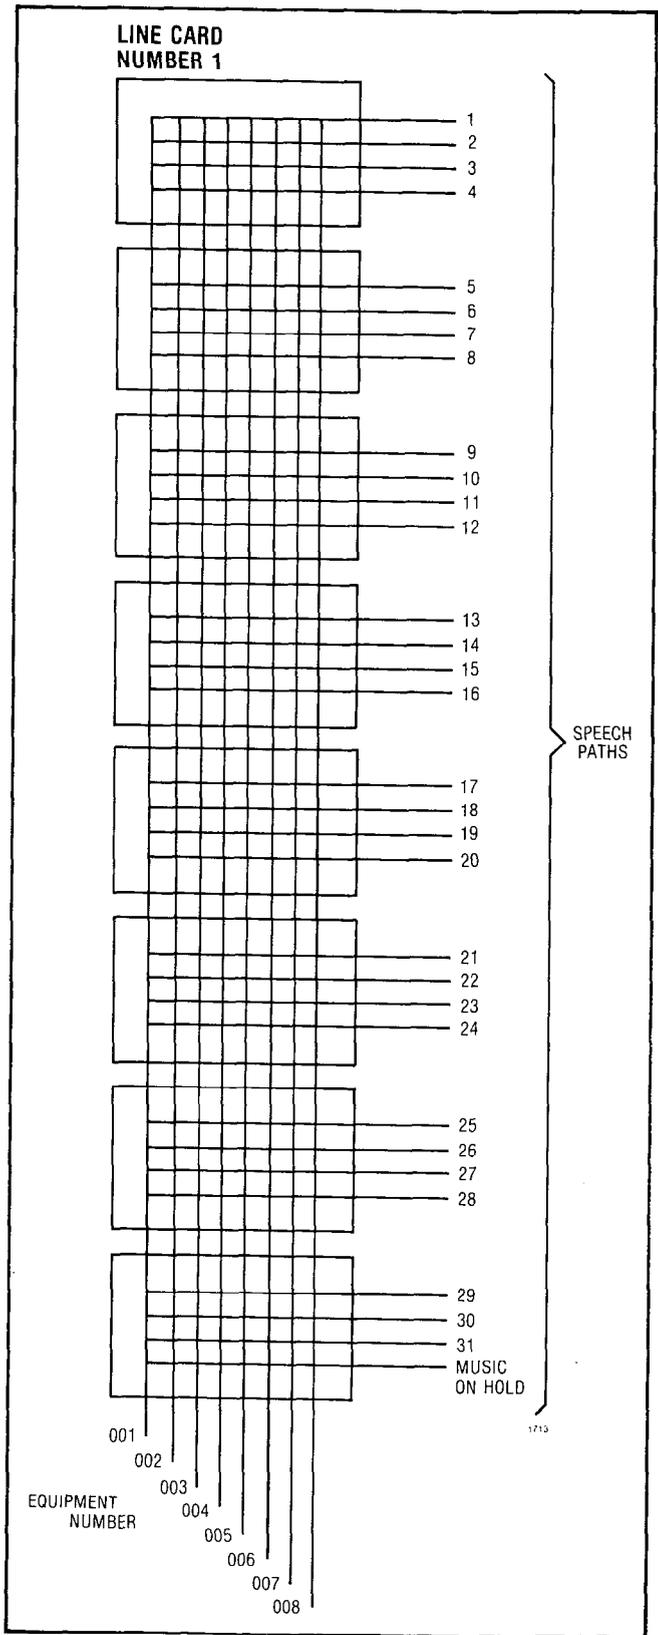
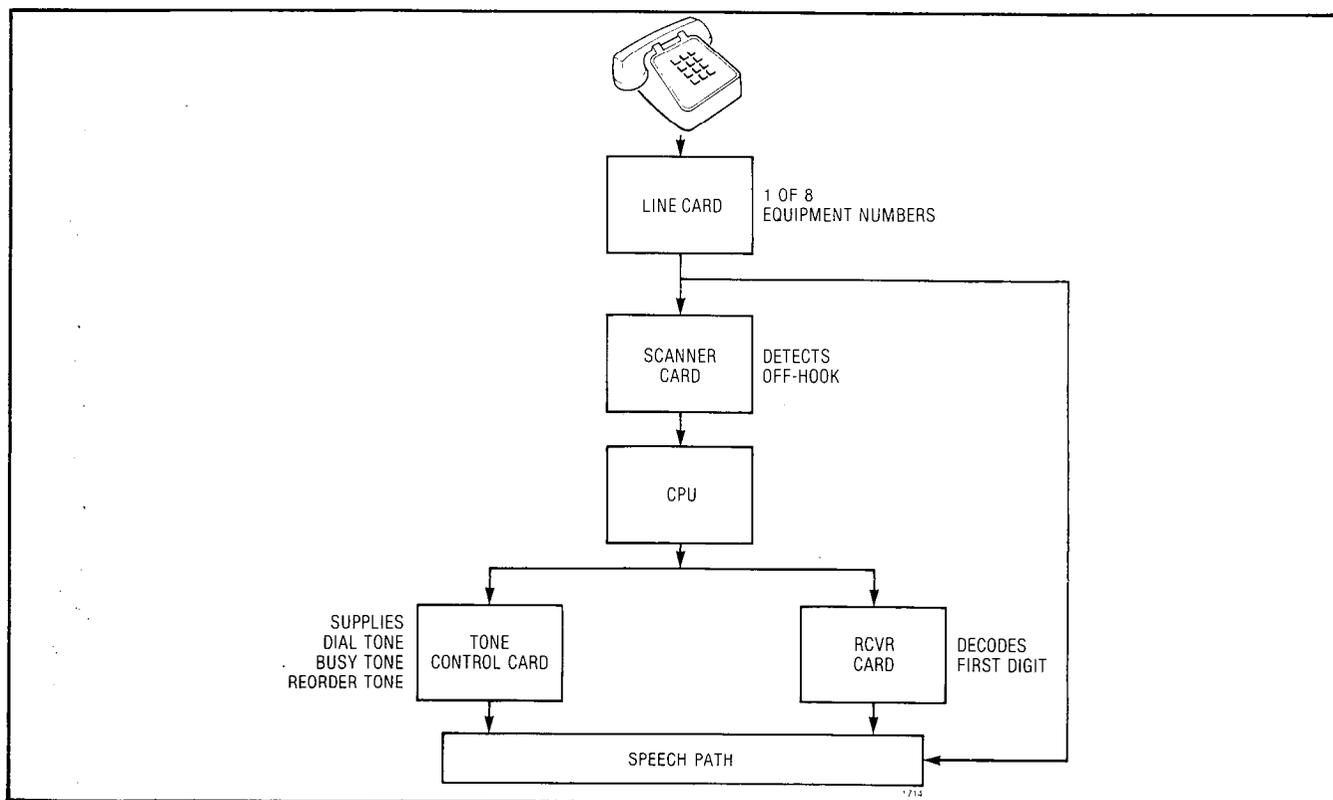

Fig. 5-1 Speech Paths
Fig. 5-2 Select a Speech Path
5.01 Each extension is assigned to a specific equipment number on a specific Line card (Fig. 5-1). When an extension goes off hook, it will complete a circuit and draw loop current. This loop current will cause the LED (on the line card) associated with that equipment number to light. At this time there are up to 31 speech paths available for assignment to the off hook extension. Each line card has an 8 × 32 switching matrix, providing access to 31 speech paths and 1 Music on Hold (MOH) path (Fig. 5-2). The Scanner
card will detect the off-hook condition on the Line card and report the equipment number to the Central Processor Unit (CPU). The CPU (through its Random Access Memory or RAM) will find a free speech path and test it, using circuits on the tone control card. After the speech path is tested, the CPU connects it to the line circuit and a free receiver is located. The selected receiver, and dial tone from the tone control card, are then connected to the free speech path (Fig. 5-2).